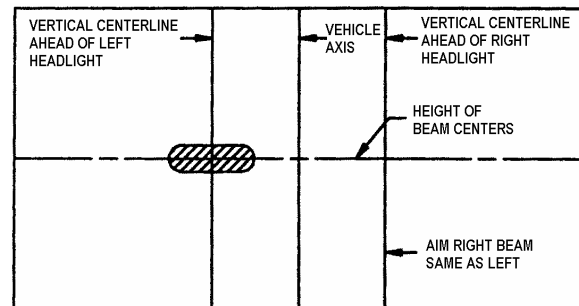

FIGURE 58: HIGH-INTENSITY ZONE (SHADED AREA) OF A PROPERLY AIMED UPPER BEAM ON THE AIMING SCREEN 7.6 M (25FT) IN FRONT OF VEHICLE
- High beam headlights are aimed so that the center of the high-intensity zone is located at the horizontal and straight ahead vertically (Fig. 58).